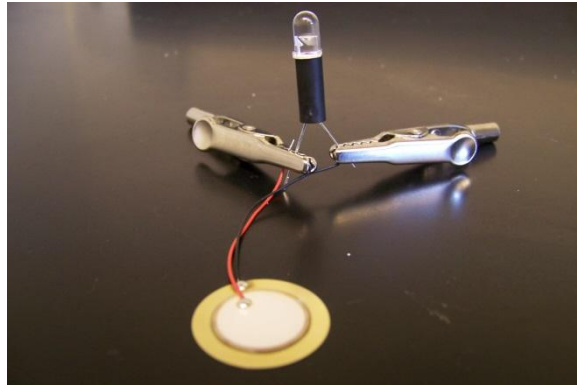

Figure 3. Piezoelectric disk ready to be tested
3. Place the ceramic disk on a flat surface and tap down on the white center (Figure 3). Start with a very light tap and slowly increase the force until the LED visibly flashes with each tap. Show effect to students.